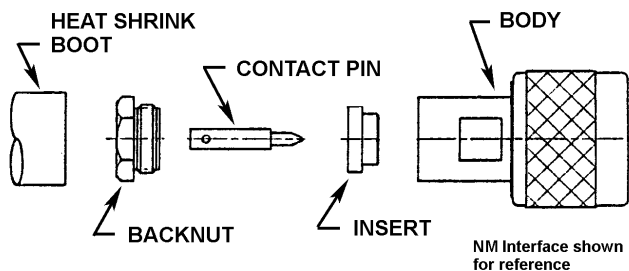

Figure 1.
1. Disassemble the connector and identify all parts as shown in Figure 1. A tube of gasket grease is not shown.
12. Place the connector insert - small end first, into the back end of the connector body. See Figure 1 for insert illustration.